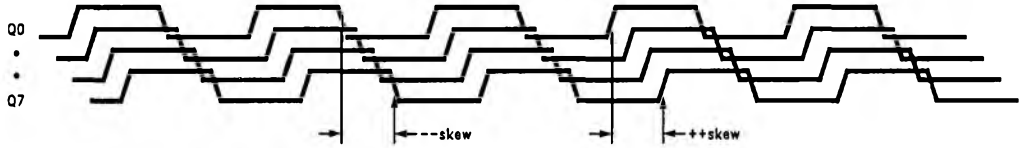

FIGURE 2. CGS801
**Note 2:** For CGS801 skew is measured at the 50% level of the rising or falling edge transitions across outputs from Q0-Q7. See *Figure 2*.